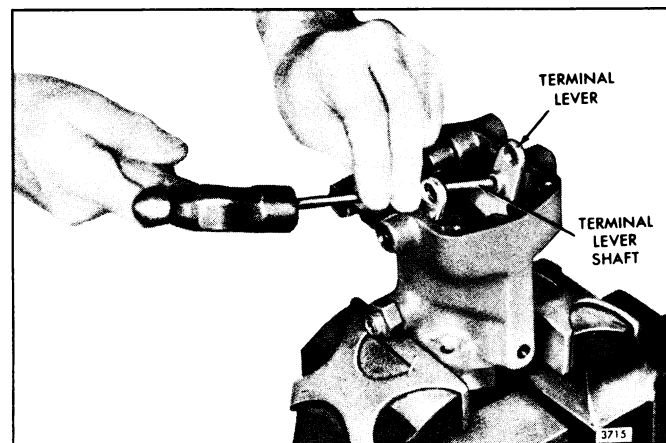

Fig. 14 - Removing Terminal Lever Shaft Cup Plug from Governor Housing
12. Remove the terminal lever shafts and cup plugs, using a brass rod (Fig. 14). Remove the terminal lever.